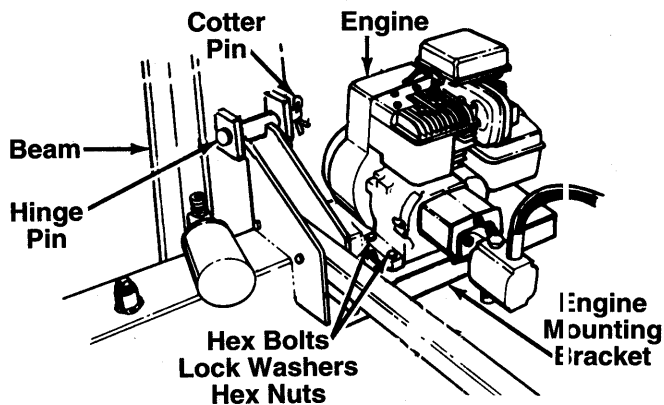

FIGURE 6.
2. Remove the cotter pin from the hinge pin, located on top of the reservoir tank assembly. Move the reservoir tank assembly in position against the beam. See figure 6.
2. Place the engine and pump assembly in position on the side of the reservoir tank assembly as shown in figure 6. Secure with hardware just removed. Tighten securely.